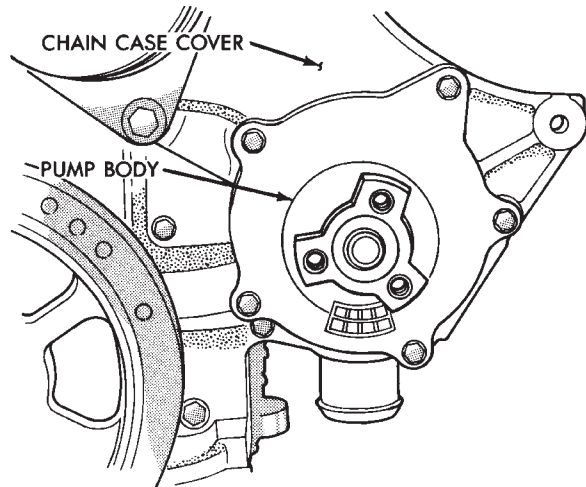

Fig. 7 Water Pump—3.3L and 3.8L Engines
- (1) Drain Cooling System. Refer to Draining Cooling System in this group.
- (2) Remove Poly V Drive Belt.
- (3) Remove right front lower fender shield.
- (4) Remove pump pulley bolts and remove pulley.
- (5) Remove pump mounting screws (Fig. 7). Remove pump.
- (6) Remove and discard O-ring seal.